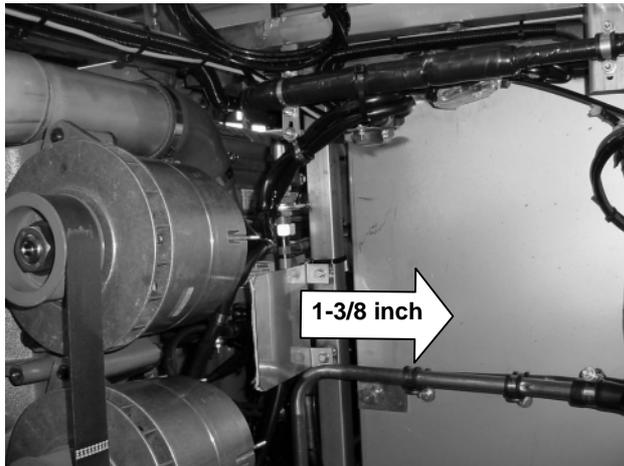

Figure 3: Bending the heat shield to clear the wiring
- 5) As a preventive measure to clear the alternator B+ harness, carefully bend the heat shield 1-3/8 inch (35 mm) towards the lavatory slide valve (see Figure 3).